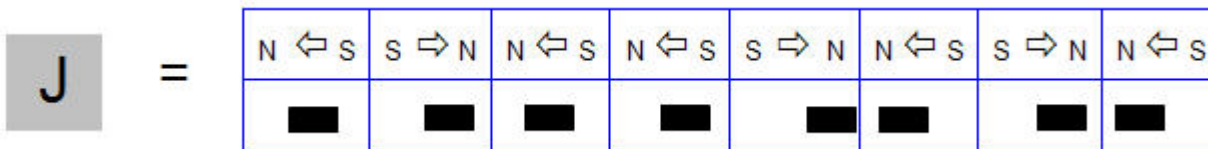

Figure 1. Neighboring bar magnets with opposite polarity are attracted to one another when tray is tapped.
5. Gently tap your tray of magnets. What happens to the arrangement? Are some of the magnets attracted (or repelled) by their neighbors? Did something like this happen to your tray (see Figure 1):